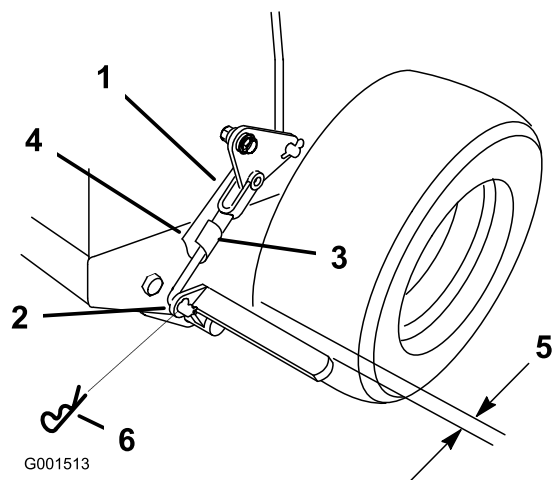

Figure 48
3. Remove the spring hair pin from the lower brake link (Figure 48).
4. Rotate the lower brake link yoke clockwise into the yoke to tighten the parking brake; rotate the brake link yoke counterclockwise out of the yoke out to loosen the parking brake (Figure 48).
Note: There should be approximately 1/4 inch clearance between the tire and the flat bar when the parking brake is in the released position (Figure 48).
5. Secure the lower link to the lower brake lever with the hair pin cotter and the clevis pin (Figure 48).